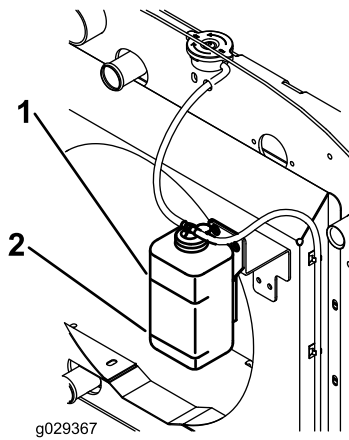

Figure 43
1. Carefully remove the radiator cap and expansion tank cap (Figure 43).
2. Check level of coolant in radiator when the coolant is cold. Radiator should be filled to the top of the filler neck and the expansion tank filled between the marks on its side (Figure 43).